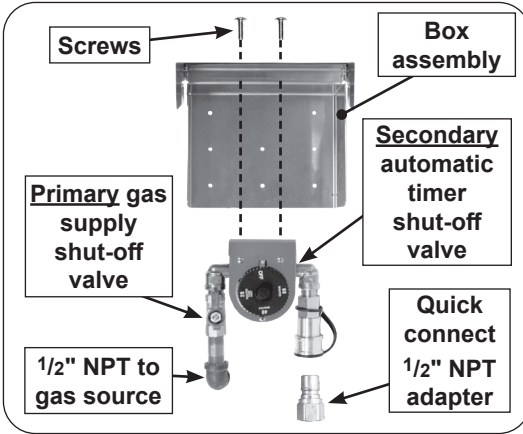

Fig. 1-1 Parts list
**To remove the valve assembly from the box:** Unscrew and remove the two screws located on top of the box assembly (see Fig. 1-1).